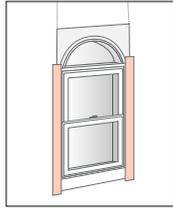

fig. 30
- a. Cut two pieces of flashing tape for jamb flashings extending 1" above the window head flange and below bottom edge of sill flashing, remove release paper and press tightly along sides of window frame. A flashing roller is highly recommended to complete this process. (fig. 30)